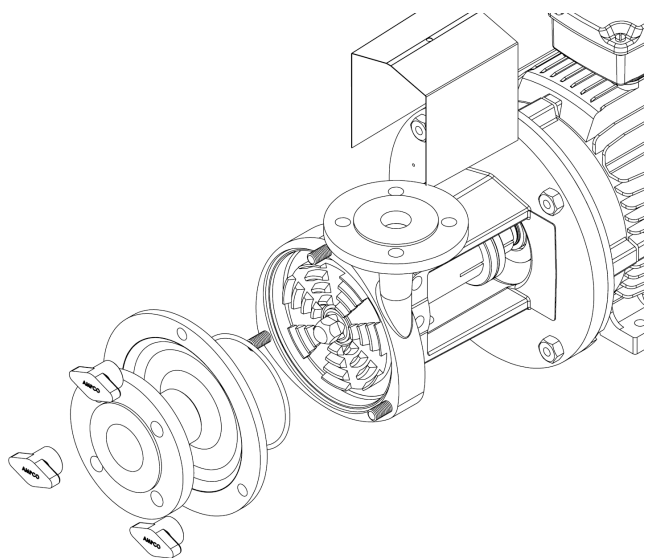

Figure 1
3. Loosen cover nuts with a 1-1/4" wrench. Remove cover wing nuts, flat washers (if provided), lock washers (if provided), cover, cover gasket and shaft guard. See figure 1.